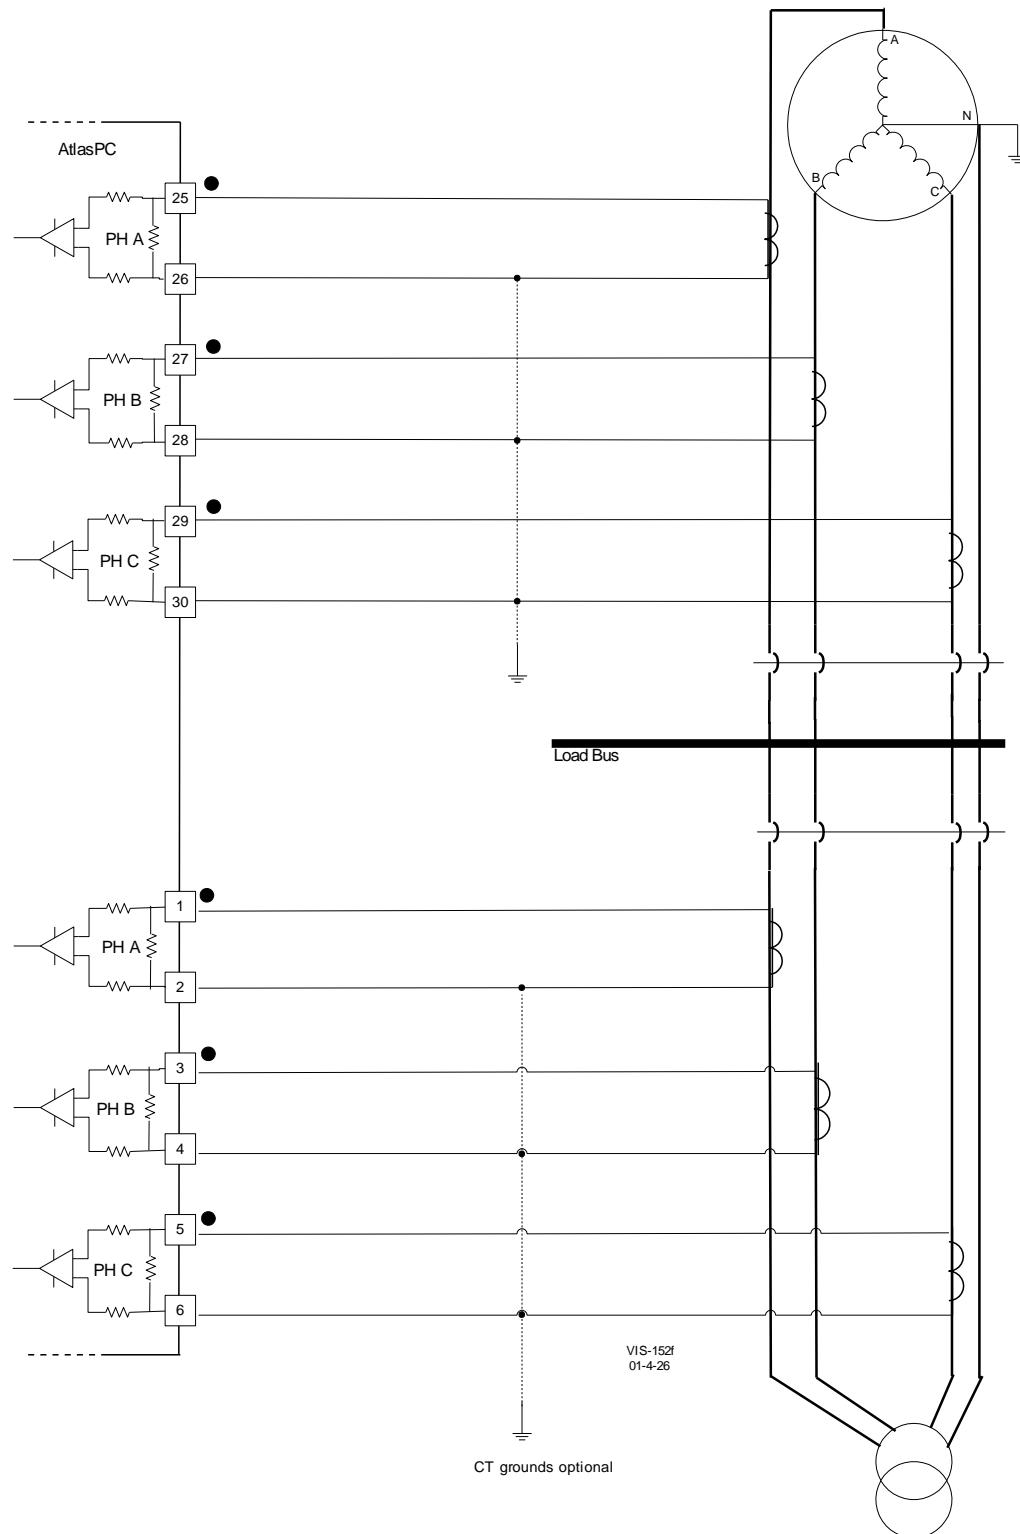

Figure 6-9. Wiring Example—CT Interface to the PowerSense Board
- Refer to Figures 6-9 and 6-10 for CT wiring.